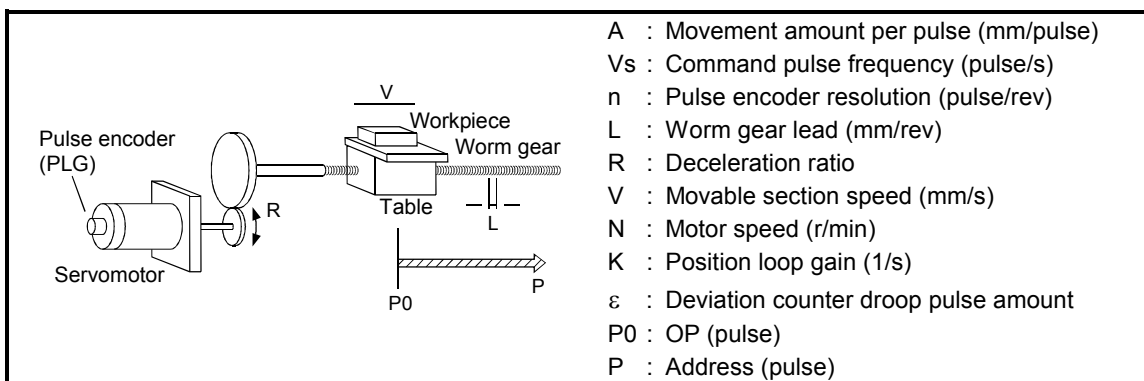

Fig. 1.4 System using worm gears
- (a) In the system shown in Fig. 1.4, the movement amount per pulse, command pulse frequency, and the deviation counter droop pulse amount are determined as follows: